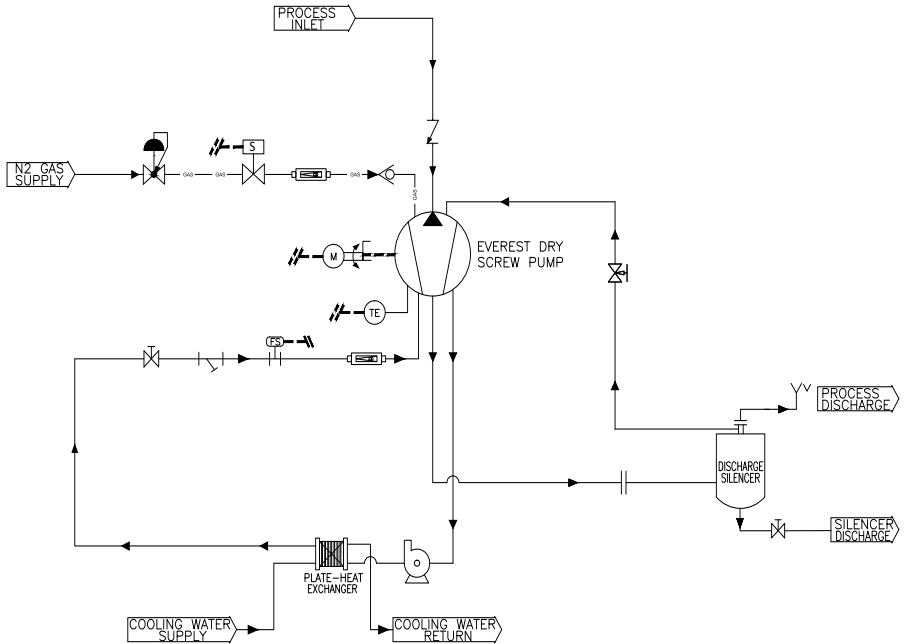

Fig. 3: Schematic connection of cooling water recovery circuit.
This system is a water cooled version with a cooling water total recovery system as shown in Fig.3. A centrifugal pump circulates the cooling water from the Dry Screw Vacuum Pump to a heat exchange unit. A flow indicator (optional), flow switch, strainer on the cooling water supply line should be installed to monitor the adequacy of the cooling water flow. A temperature gauge/element (Optional) can be installed for discharge temperature monitoring.
- An oil level gauge (sight glass type) is located on the front & rear end cover. Oil should be filled to the top level to the upper mark as shown in Fig. 3 avoid dry running condition (No oil or low level of oil) of bearing and gears which result in rise in temperature, bearing and seal damage.